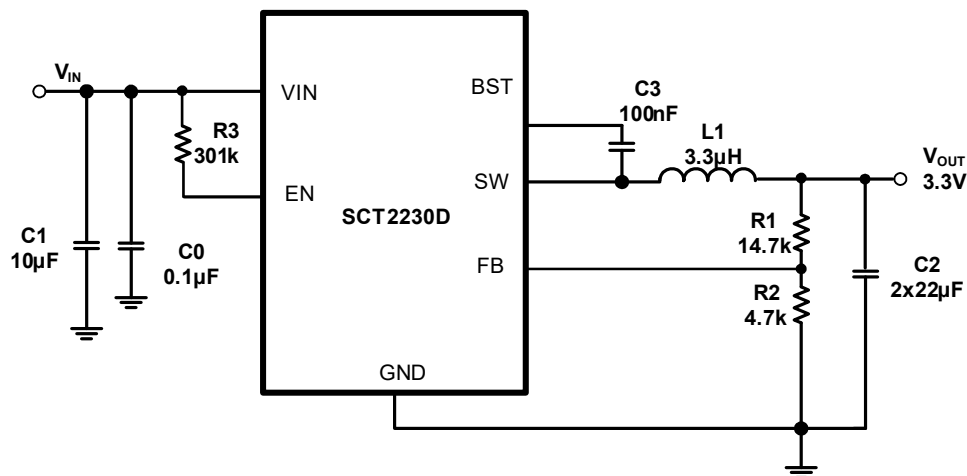

Figure 8. 12V Input, 3.3V/3A Output
The SCT2230B features external programmable output voltage by using a resistor divider network R1 and R2 as shown in the typical application circuit Figure 8. Use equation (8) to calculate the resistor divider values.